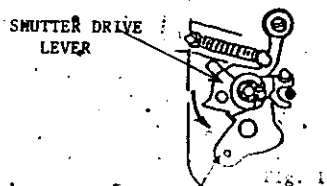

Fig. 10
3) Open the shutter with the rotor's shutter drive pin, in the direction of the arrow. (Fig. 10)